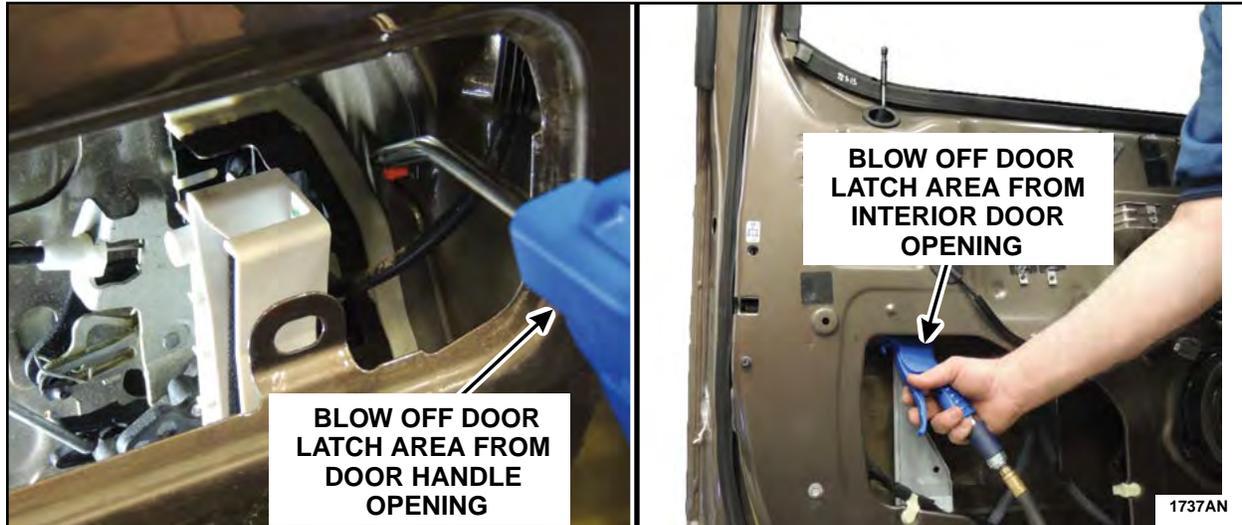

FIGURE 63
4. If not previously performed, use compressed air and blow out any debris or residual water from the door latch assembly, exterior door handle mechanism and cables for thirty seconds. Blow drying with compressed air for thirty seconds is critical to remove as much moisture as possible. See Figure 63.